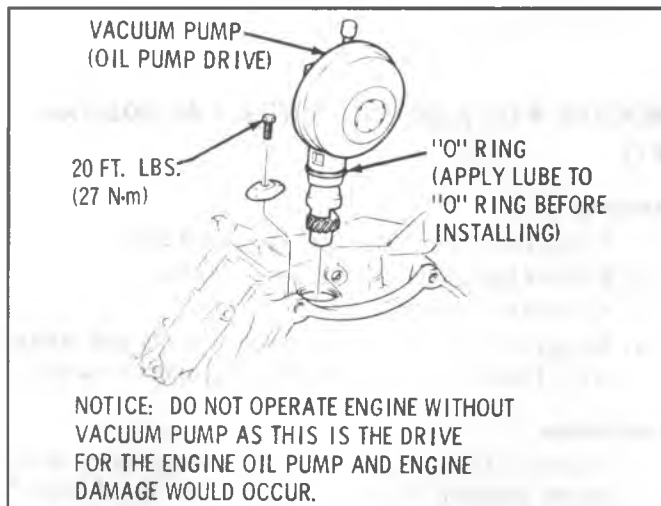

Fig. 6A6-39--Drive Vacuum Pump
4. Dip intake manifold bolt in engine oil and torque in sequence shown to 15 lbs. ft. (20 N·m). Then re-torque to 40 lbs. ft. (54 N·m) (Fig. 6A6-36).